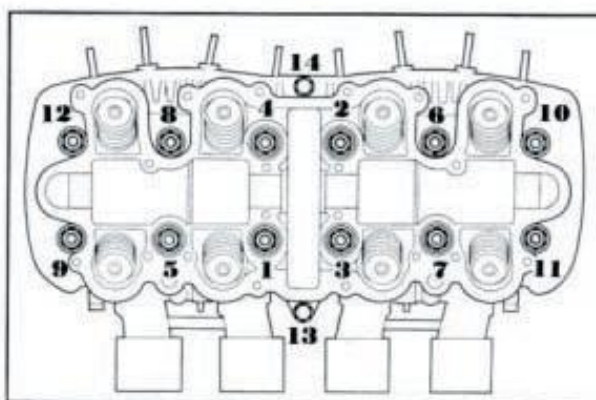

Fig. 83
② Cam chain tensioner mounting bolt
11. Unscrew twelve cylinder head mounting nuts and two 6 mm flange bolts, and remove the head. Loosen the nuts uniformly in the reverse order of tightening shown in Fig. 83.
11. Tighten the twelve 8 mm nuts uniformly with the special tool (Tool No. 07078-32301) to a torque of **2.0~2.2 kg-m. (14.46~16.63 ft-lbs)** in the sequence shown in Fig. 83.